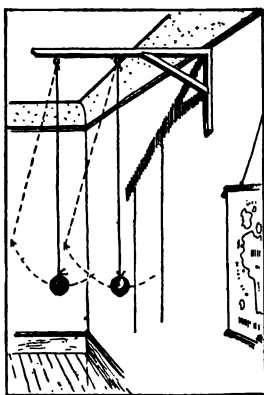

FIG. 139. Pendulums of the same length vibrate in the same time.
**Exercise 5.** Take two balls of equal size but of different materials, one of wood and the other of iron or lead. An apple and a stone of equal size may be used. Hang them side by side with cords of the same length (Fig. 139). Hold one in each hand, draw them out to the same distance, and let them go. Do they get back to your hands at the same time? Determine the period or the time of vibration by counting the number of vibrations in each case in 20 seconds. Make a number of such observations and take the average of the periods.